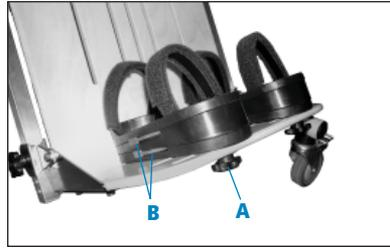

Figure 8a
2. Insert sandal base onto bolts and adjust sandal before tightening knobs (A) securely (see Figure 8a).
3. Place sandal onto base and lock into place with latch (B).
(see Figures 8a and 8b)